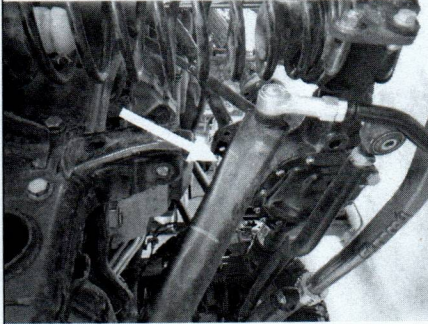

Figure 2. Sway Bar Disconnected and Moved Down
4. Disconnect the front sway bar links at the axle, then swing the sway bar and sway bar links down and out of the way. See **Figure 2**.